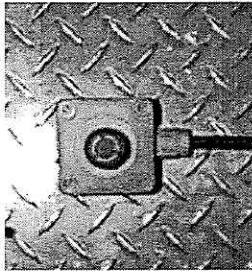

**Figure 6-4.** Emergency foot switch
2. Turn on the master power switch (#8 in the Figure 6-3). Make sure that the emergency shutoff switch (#1 in the Figure 6-3) and the emergency foot switch (Figure 6-4) are in pull position. Then, the indicator lights #2 and #5 in the Figure 6-3 should be lit.